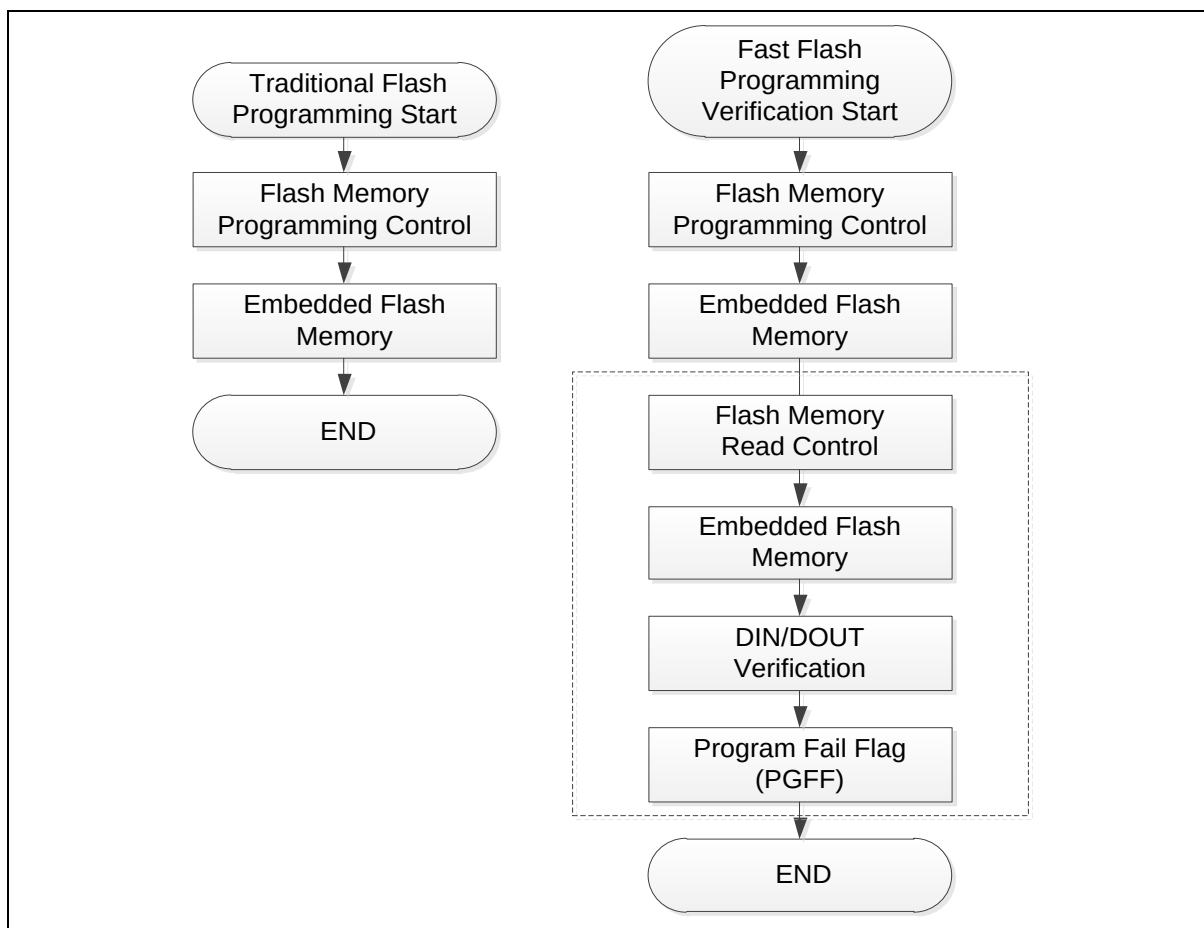

Figure 6.4-12 Fast Flash Programming Verification Flow
In traditional Flash programming operation, the controller receives the programming trigger event then control the timing to perform the programming embedded Flash memory as show in Figure 6.4-12.
This chip supports the fast Flash programming verification function, which provides hardware verification for Flash programming to save time of the CPU read back and comparison. When data is programmed to the embedded Flash memory, the controller asserts the Flash read operation to read data out, and performs data comparison with data in. Finally, the comparison result is saved in PGFF (FMC_ISPSTS[5]). The PGFF is set to 1 if output data is not the same as the input programming data. The flag is kept until clear by software or a new erase operation. The fast Flash programming verification flow is shown in Figure 6.4-12.
In traditional Flash updated operation, the Flash memory has to perform three steps to complete the Flash memory updated procedure, (1) Flash ERASE (2) Flash PROGRAM (3) Flash READ back all of data to check the correction. In this chip, it only reads FMC_ISPSTS to check PGFF flag in Step (3) without reading data back to confirm. Figure 6.4-12 compares traditional programming verification flow and fast programming verification flow.